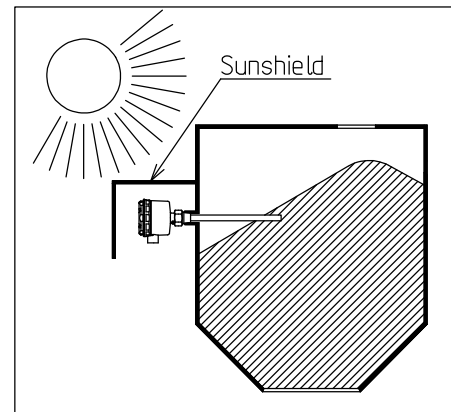

Fig. 5-7
- (7) Avoid exposure to direct sunlight. In summer especially, direct sunlight causes internal temperature to exceed the ratings. Provide a sunshield* if necessary. (Fig. 5-7)
- (8) Properly tighten the cover and treat the cable gland. Water entering inside may cause faulty operation. The IP rating (IP65 or equivalent) is achieved only when the cover is properly tightened and the cable inlet properly treated.